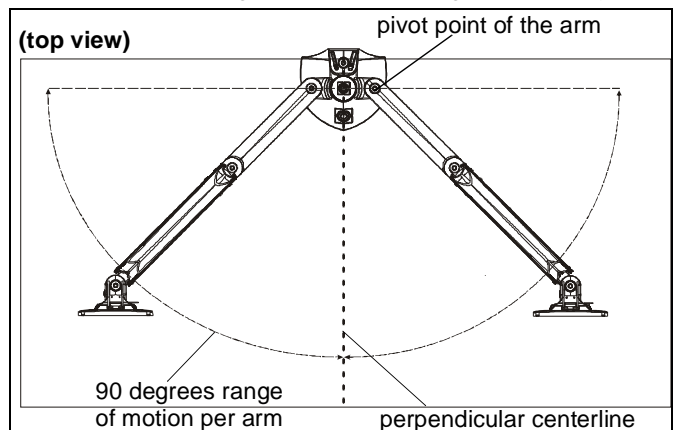

Figure 11
1. Adjust arm angles as desired within a 90 degree range from the pivot point of the arm and a perpendicular centerline of mount. (See Figure 11)